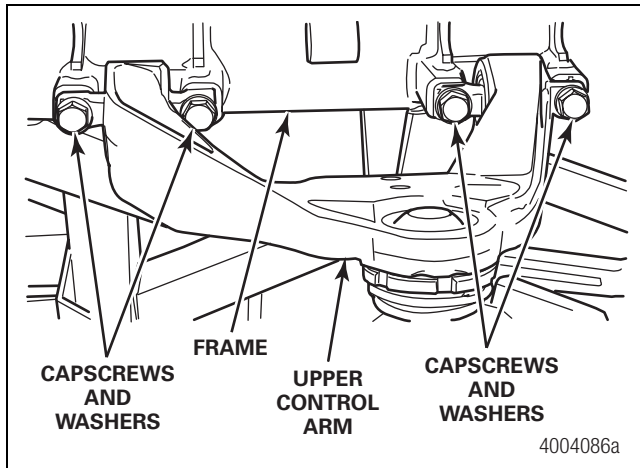

Figure 7.8
2. Position the upper control arm onto the frame. Support the upper control arm. Install the four capscrews and washers that secure the upper control arm to the frame. The capscrews will be M18 or M20 depending on the suspension. Tighten the M18 capscrews to 225-273 lb-ft (305-370 N•m). Tighten the M20 capscrews to 369-480 lb-ft (500-650 N•m). Figure 7.8.